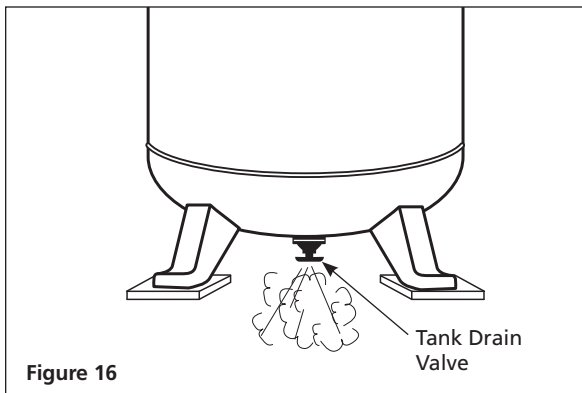

Figure 16
3. Open the tank drain valve (see Figure 16). Turn outlet valve to open air flow.
Drain Tank: Drain moisture from tank by opening drain valve underneath tank once tank pressure is less than 40 PSI (See Figure 16 on page 13).